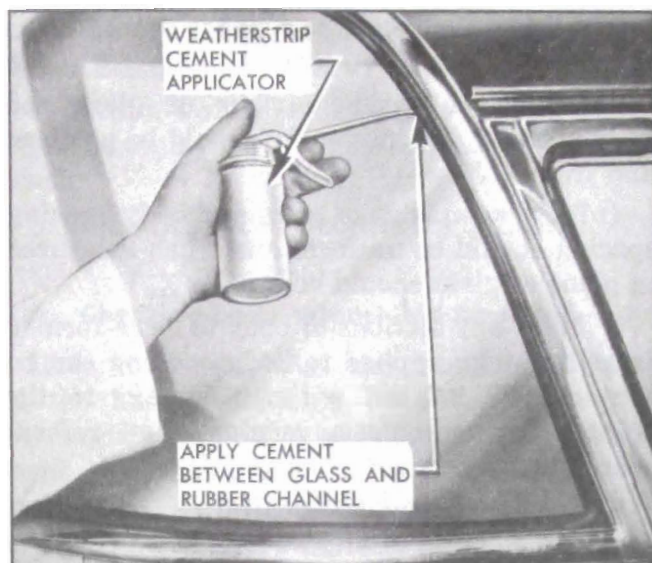

Figure 13-177—Windshield Rubber Channel Sealing
7. Use weatherstrip cement to seal between outside lip of rubber channel and glass. See figure 13-177.